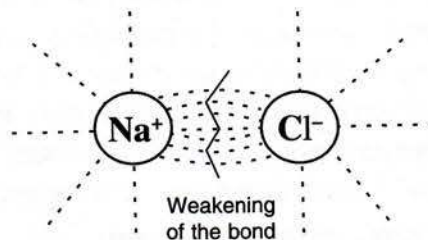

Fig. 6.3 In water solution or in molten state, the attraction is lost and ions are free to move about.
- (b) **In the molten state**, the high temperatures required to melt the solid weakens the bond between the particles and the ions are set free. [Fig. 6.3].